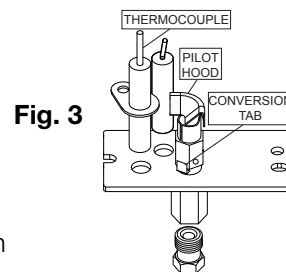

Fig. 3
- ☐ 7. Loosen the pilot hood until the conversion tab slides easily (**Fig 3**). Slide the tab to the fuel desired.